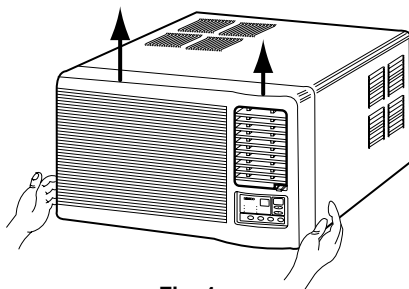

Fig. 4
6. Push base side of the front grille to upper side until it is separated from the cabinet as shown in Fig. 4